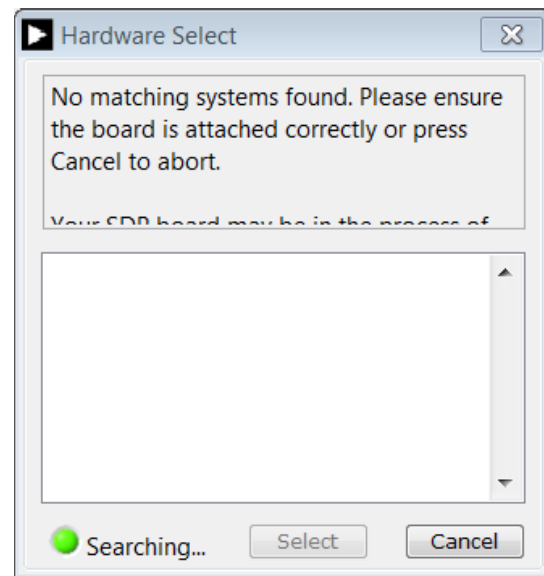

Figure 14. Connectivity Error Alert
2. If the **EVAL-AD5535BSDZ** evaluation system is not connected to the USB port via the **EVAL-SDP-CS1Z** when the software is launched, a connectivity error displays (see Figure 14). Connect the evaluation system to the USB port of the PC, wait a few seconds, and then follow the on-screen instructions.